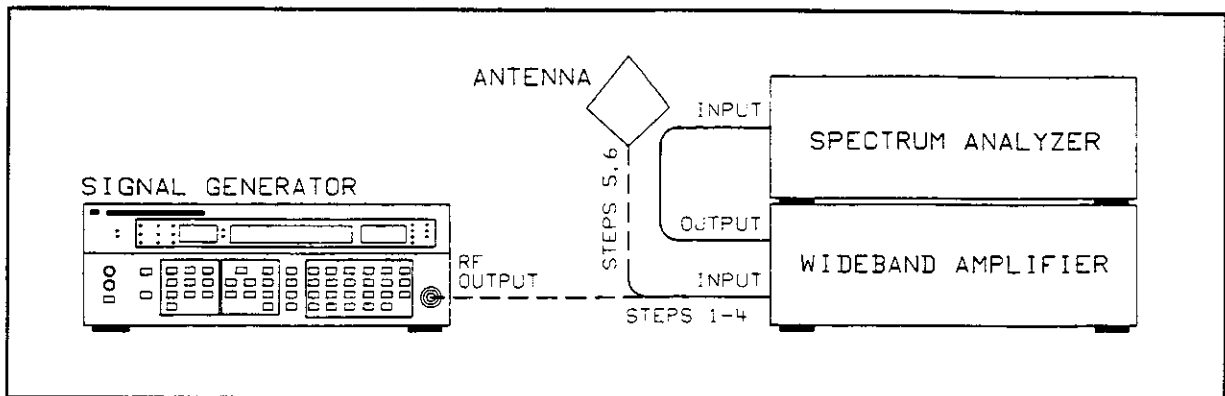

Figure 4-17. Output Leakage Test Setup
1. Connect equipment as shown in Figure 4-17, for the signal path shown as 1-4 below.
5. Connect the one-inch loop antenna to the analyzer through the amplifier as shown in Figure 4-17, for the signal path shown as 5,6. Hold the end of the loop antenna cylinder in contact with the front surfaces of the Signal Generator. All signals and noise should be below the reference graticule line (i.e.,below -107 dBm).